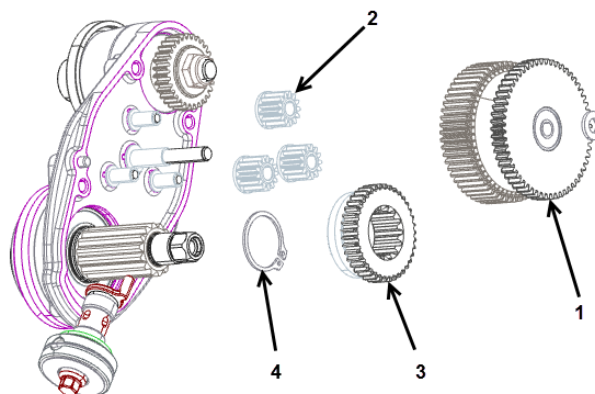

Figure 7
4. Slide the sun gear, ring gear, and the planet gears from the pins on the gear box housing. (Figure 7)